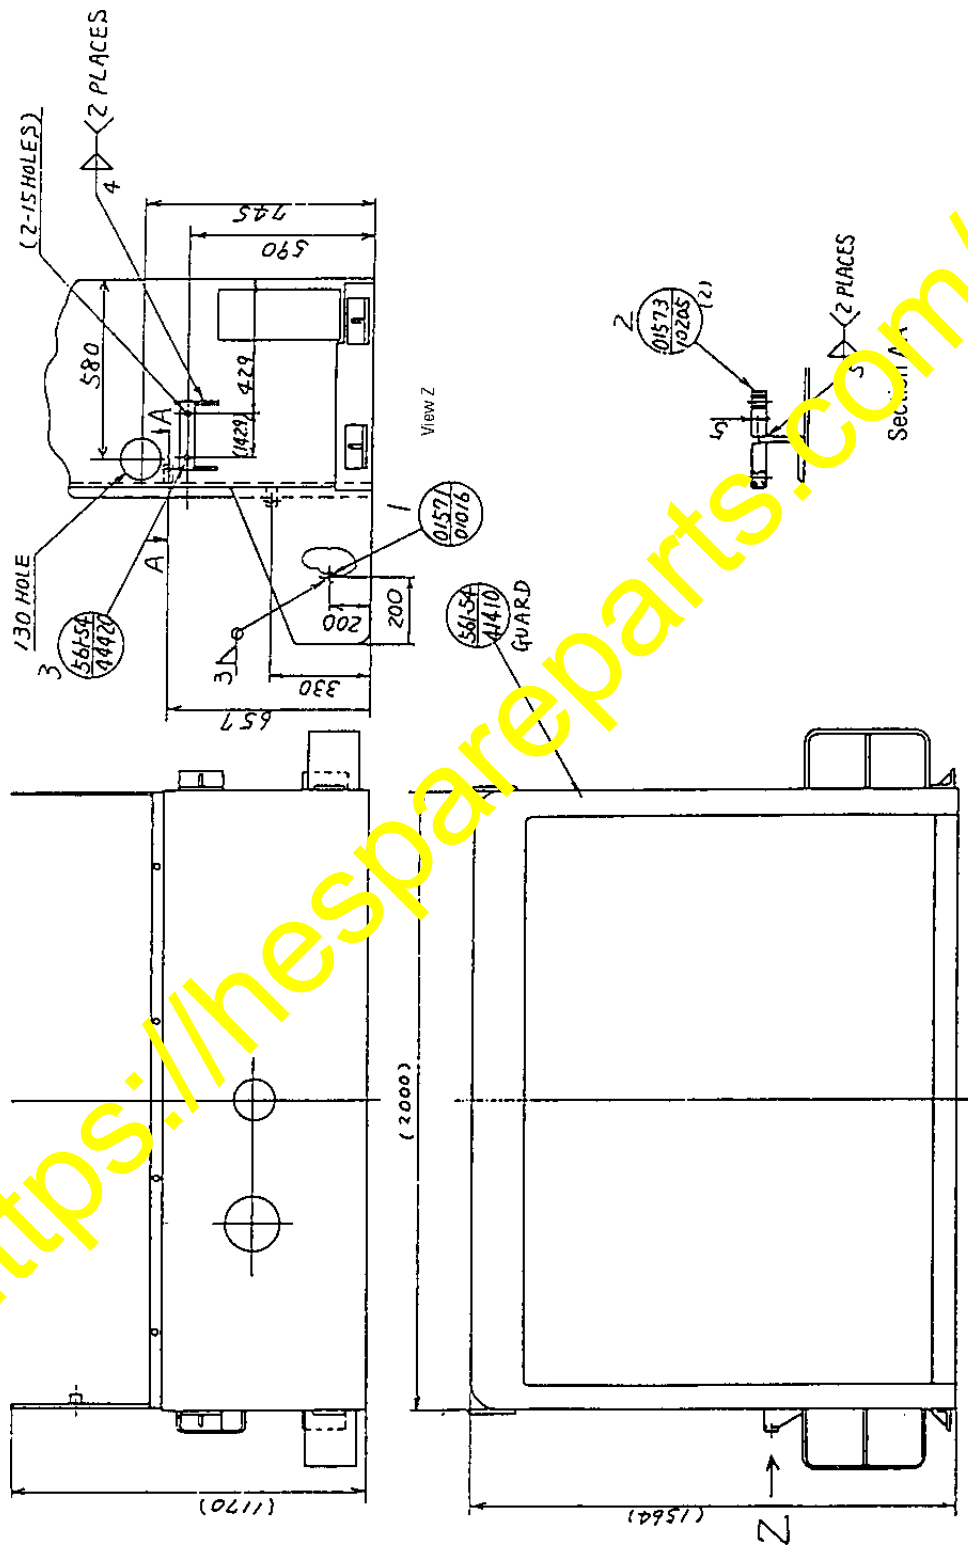

Fig. 6
- (2) Weld a SEAT (01571-01016) (1), two SEATS (01573-10205) (2), and a BRACKET (561-54-44420) (3) to GUARD (561-54-41410). Machine a 130 mm dia. hole to the guard. (See Fig. 6)